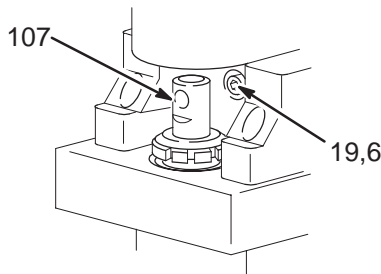

Fig. 15
2. Remove the pressure control (64). See page 17.
3. Turn the displacement pump rod (107) so the pin hole aligns with the bottom drive housing screw (19). See Fig. 15. Remove the three drive housing screws and lockwashers (19,6). Also see Fig. 16 on page 16.